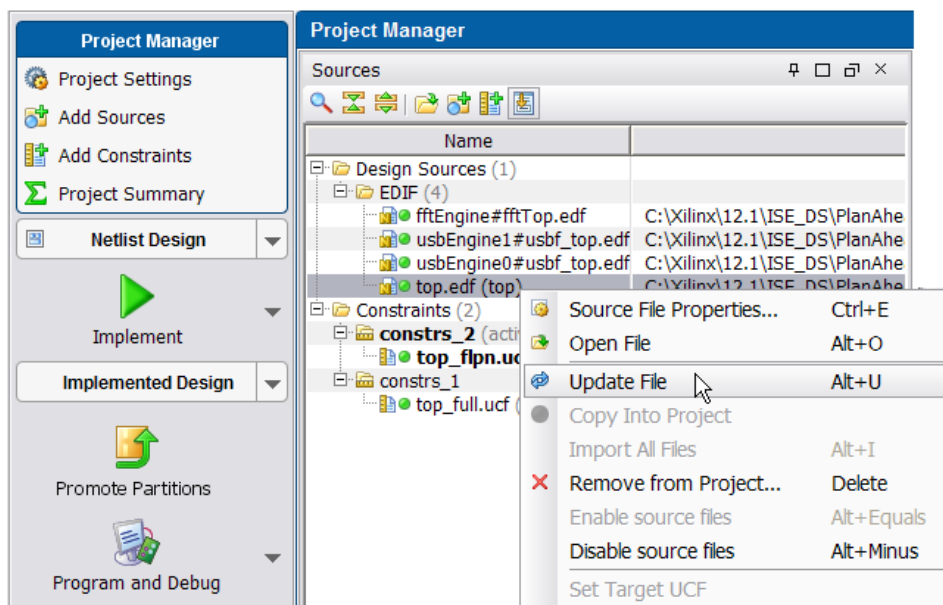

Figure 25: Updating “top.edf”
- 4-1-3. Right-click `top.edf` and select **Update File** (Figure 25).